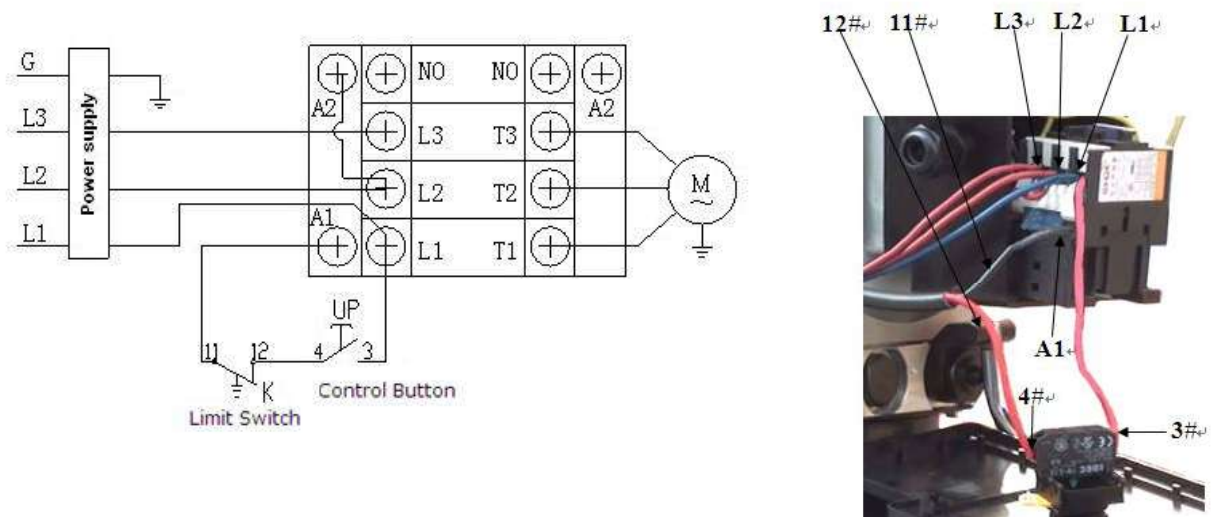

Fig. 42
2. Connection step (See Fig.42)